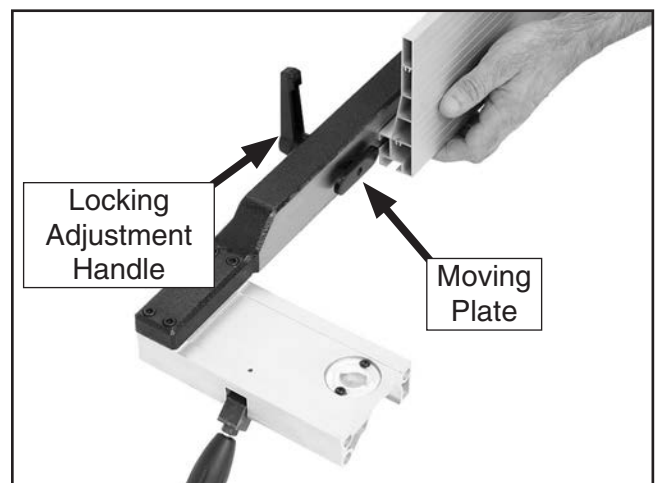

Figure 19. Attaching resaw fence to standard fence.
22. Slide the resaw fence over the moving plate, as shown in **Figure 19**, so the moving plate fits inside the channel of the resaw fence.